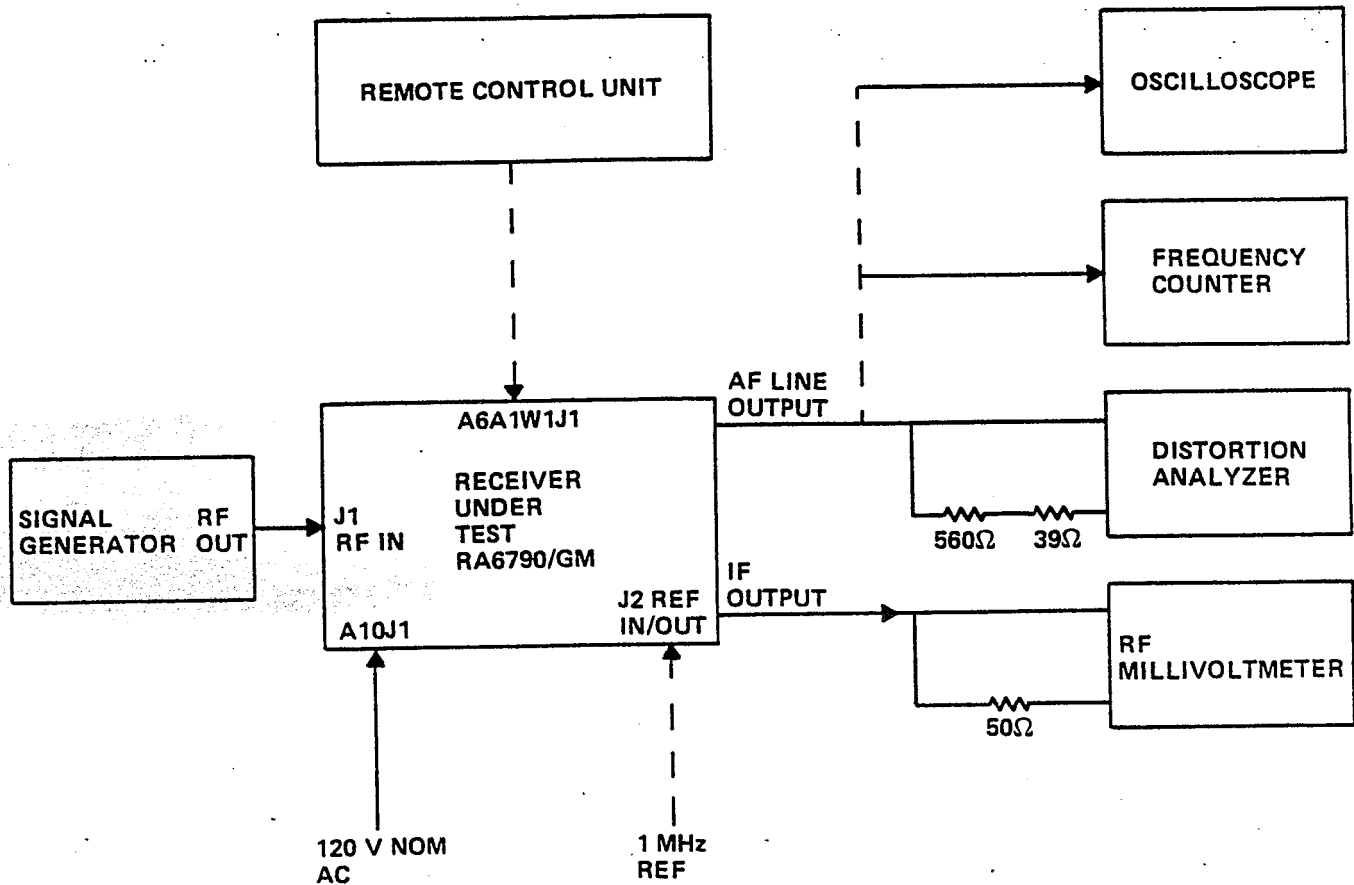

Figure 5-1. Standard Test Equipment Configuration
All tests should be conducted using Figure 5-1 as a standard test set-up. Equipment should be allowed a warm-up period of at least 30 minutes prior to conducting the test. If the Receiver does not satisfactorily pass a test, refer to Paragraph 5.6, Board Level Fault Isolation.
1. Connect the Receiver and test equipment as shown in Figure 5-1.
1. Set up the equipment as in Figure 5-1.
1. Set up the equipment as shown in Figure 5-1.
1. Set up test equipment as shown in Figure 5-1.